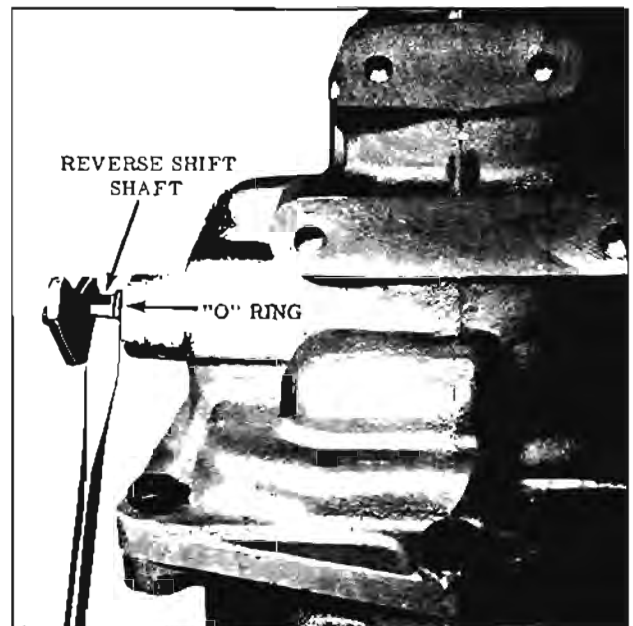

Fig. 11-216 Disengaging Reverse Shift Fork
7. With the reverse shift lever facing down, pry the reverse shift shaft from the extension housing until "O" ring seal is visible. (Fig. 11-216)